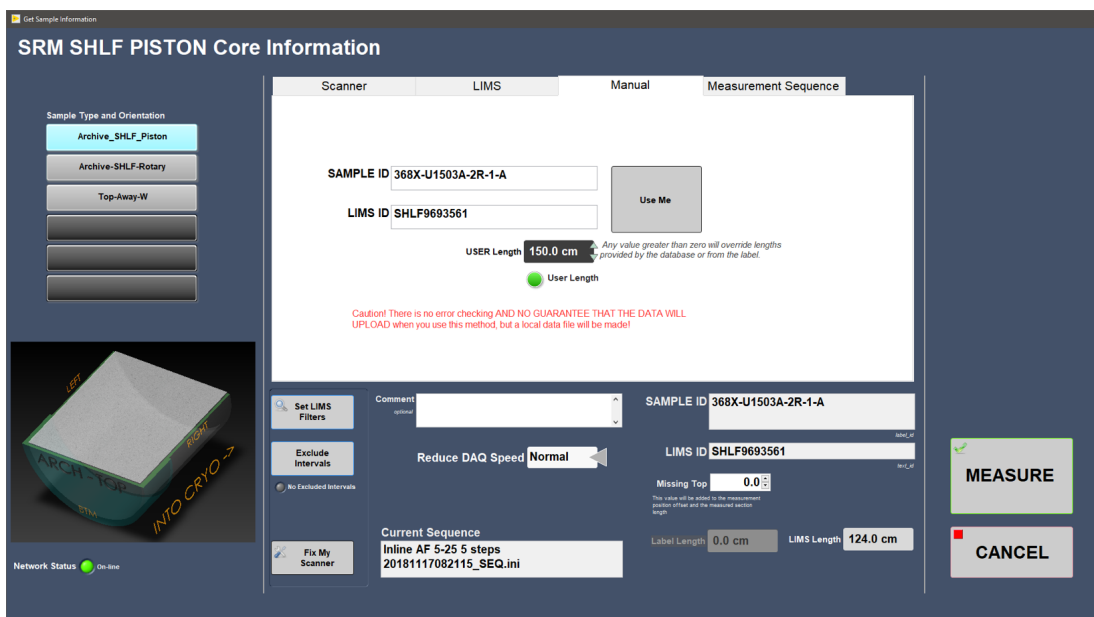

Figure 23- Sample Information Window: Section Half Manual Entry
- **Manual entry mode:** Type in the sample label ID (i.e., 362-U1480A-1H-1-A) and LIMS Text ID (i.e., SHLF7851761) and length of section (**Figure 23**).